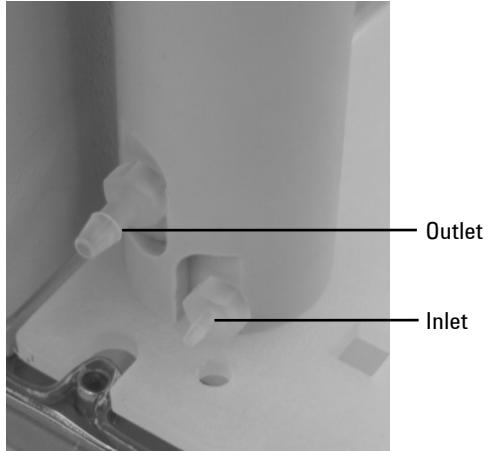

Figure 7. Close up of rinse reservoir mounted on rack location mat.
- 5 The larger nipple on the front of the reservoir is the outlet connection (see Figure 7). Attach the 3.2-mm ID tubing to the outlet and place the other end of this drain line into a suitable waste collection receptacle.
- 6 The smaller nipple on the front of the reservoir is the inlet connection (see Figure 7). The tubing you attach to the inlet connects to the pump tubing.